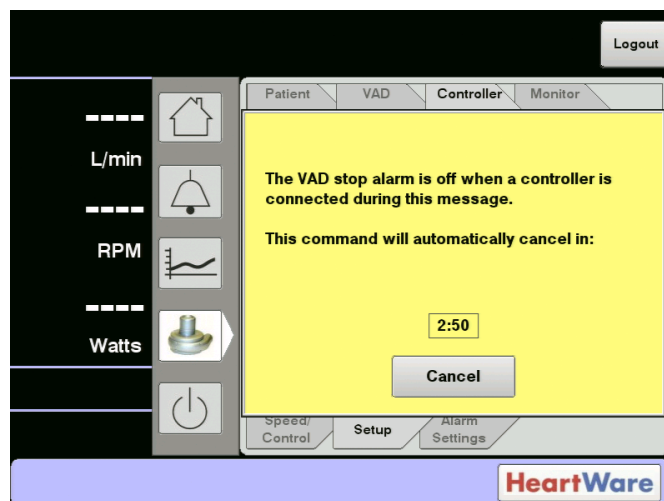

Figure 36: Pending VAD stop command
8. The “VAD Stop” Alarm will be re-armed automatically after 3 minutes as long as the monitor is not connected to a controller (Figure 36)